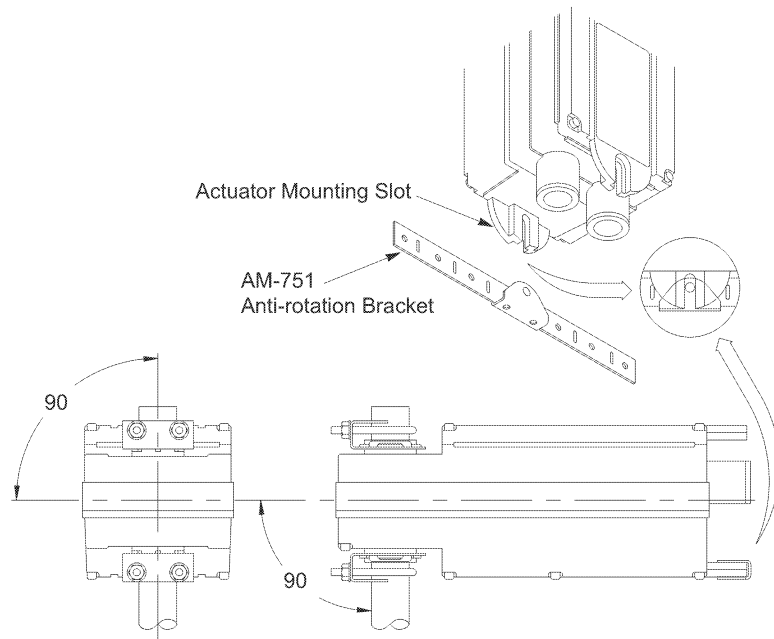

Figure-9 Mounting Anti-rotation Bracket to Actuator.
4. Align the actuator at 90° (perpendicular) to the damper shaft. See Figure-9.
5. Slide the anti-rotation bracket pin into the mounting slot on the actuator and drill mounting holes. See Figure-9. For narrow spaces, the AM-752 anti-rotation bracket is recommended (order separately).
7. Slide the anti-rotation bracket pin into the mounting slot on the actuator. See Figure-9. For narrow spaces, the AM-752 anti-rotation bracket is recommended (order separately).